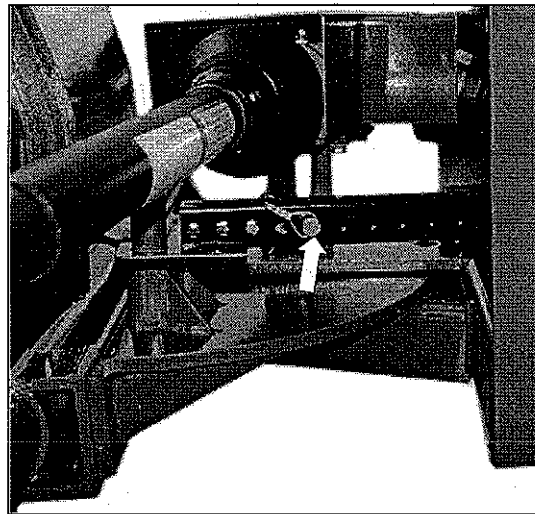

figure 13
- e. Insert a lock pin in the aligned holes (figure 13).